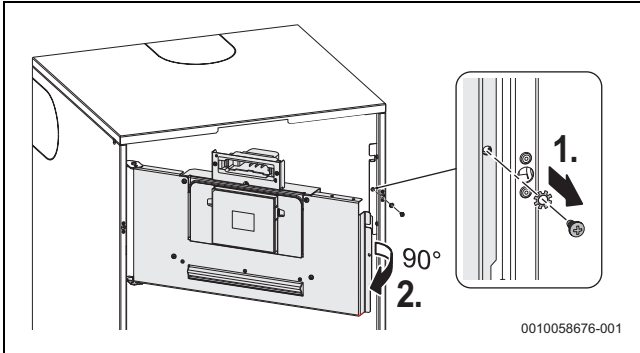

Fig. 64 Service position for the control unit
Refer to figure 64.
- ▶ Move the control unit to the service position (→ Fig. 64).
- ▶ For splash-water protection (IP): cut the low voltage cable grommet to match the diameter of the cable.